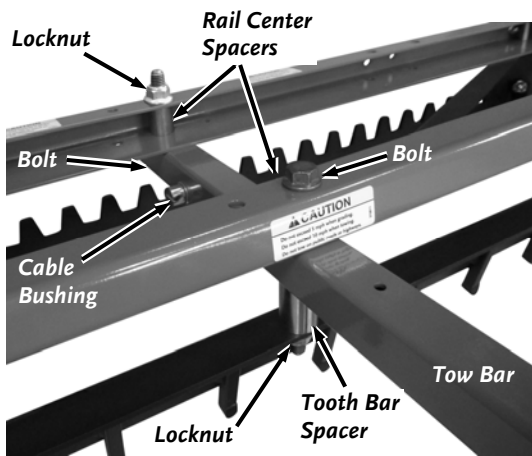

Figure 12
10. Secure the front of the Tow Bar with a 1/2-13 x 6" flange Bolt, Rail Center Spacer (inserted into Crossmember), Tooth Bar Spacer (between Tow Bar and Tooth Bar) and 1/2" flange Locknut only hand tight for now (**Figure 12**).